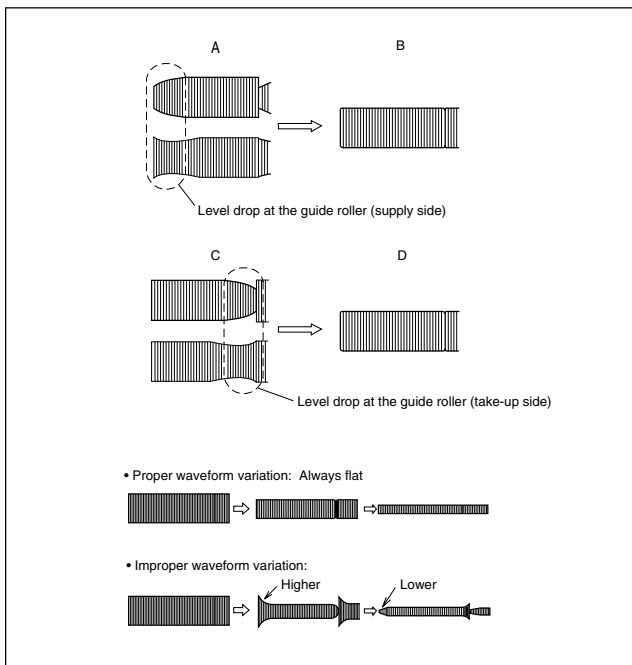
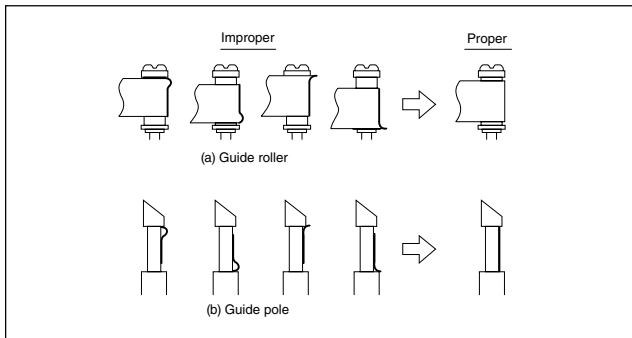

Fig. 2-3-1c
Fig. 2-3-1d
- (5) Reduce the V.PB FM waveform while pressing the channel buttons (+, -) during playback. If a drop in level is found on the left side, turn the guide roller of the pole base assembly (supply side) with the roller driver to make the V.PB FM waveform linear. If a drop in level is on the right side, likewise turn the guide roller of the pole base assembly (take-up side) with the roller driver to make it linear. (See Fig. 2-3-1c.)
- (6) Make sure that the V.PB FM waveform varies in parallel and linearly with the tracking operation again. When required, perform fine-adjustment of the guide roller of the pole base assembly (supply or take-up side).
- (7) Unload the cassette tape once, play back the alignment tape (A1) again and confirm the V.PB FM waveform.
- (8) After adjustment, confirm that the tape wrinkling does not occur at the roller upper or lower limits. (See Fig. 2-3-1d.)
**[Perform adjustment step (9) only for the models equipped with SP mode and EP (or LP) mode.]**
- (9) Repeat steps (1) to (8) by using the alignment tape (A2).